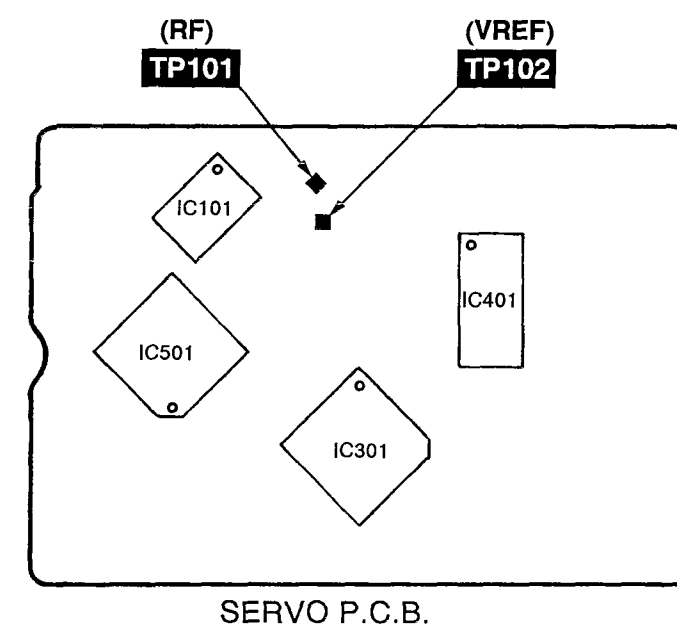

Fig. 12
1. Connect the oscilloscope's CH. 1 probe across **TP101** (RF) (+) and **TP102** (VREF) (-) on the servo P.C.B. (Refer to Fig. 12 on page 52.)